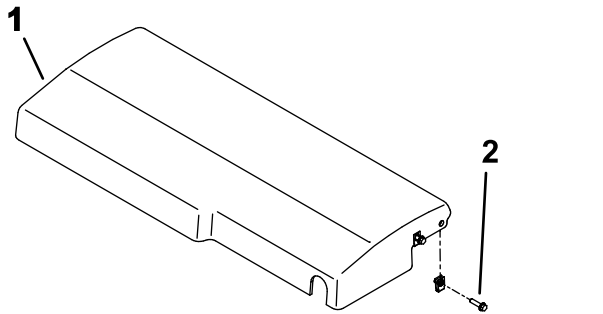

Figure 4
6. Remove the 4 screws that secure the battery cover to the machine and remove the cover (Figure 4).